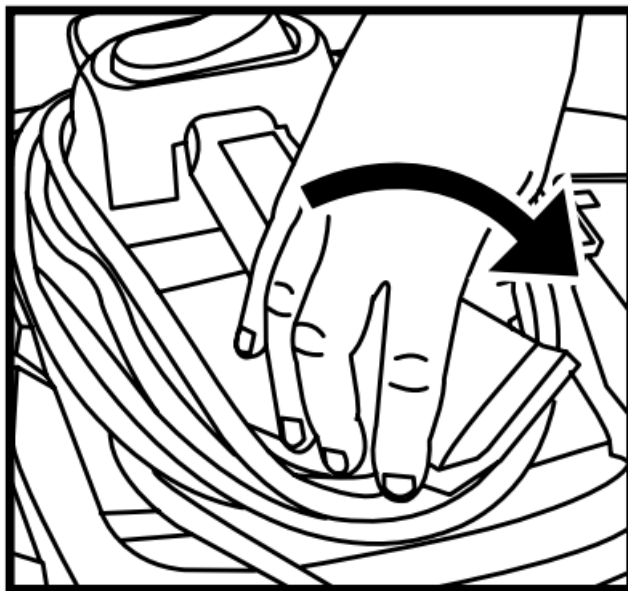

FIGURE 34
56. Grasp the sides of the rear cord wrap and turn clockwise 180° to return it to its original position. **FIGURE 34.**